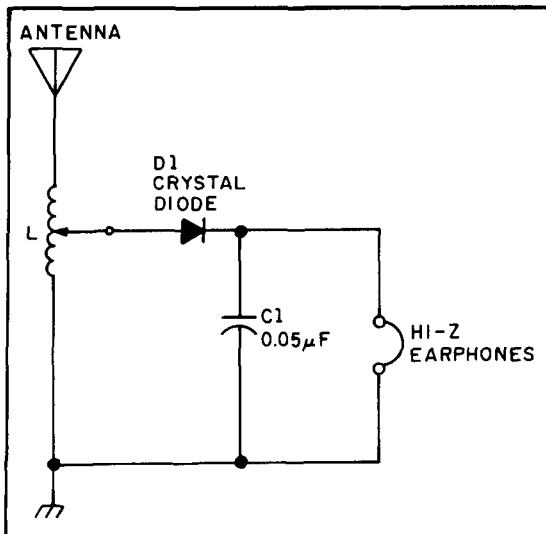

Figure 3A. Impedance matched crystal set using a slider "tuned" inductor.
The crude crystal set of Figure 2 works well only with relatively strong local signals. Improved sensitivity was obtained with circuits such as Figure 3A. In this crystal set, the RF signal flowing between antenna and ground is developed across an inductor (L). This design resulted in a stronger available